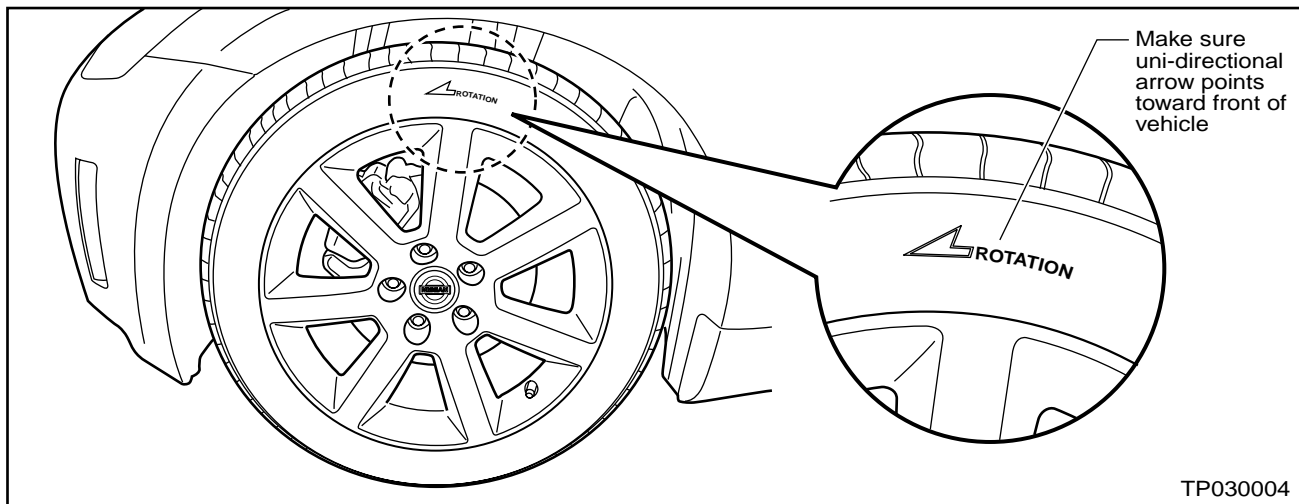

Figure 4
**NOTE:** When remounting tires in the steps below, make sure the uni-directional arrows on the sides of the tires point toward the front of the vehicle (see Figure 4)